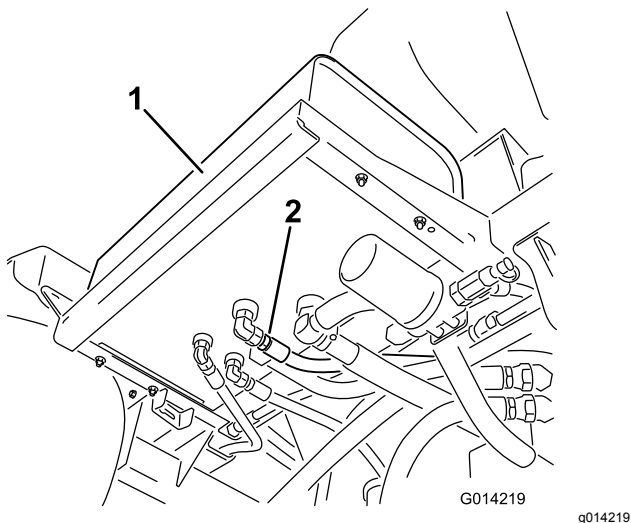

Figure 93
2. Clean the area around a hydraulic-hose fitting on the bottom of the hydraulic-fluid tank (Figure 93).
4. Remove the hose fitting from the tank, allowing the fluid to drain into the pan (Figure 93).